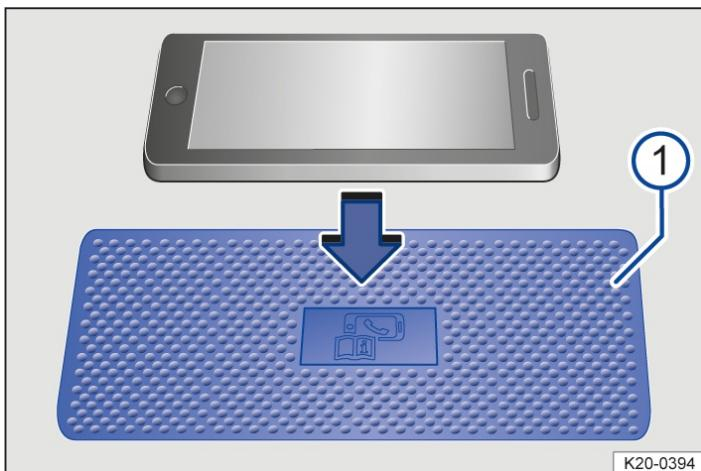

Fig. 1 Illustration: stowage area with mat for wireless charging function. The symbol on the lining mat may look different in some vehicles.
The stowage area with lining mat → *Fig. 1* (1) for the wireless charging function is located either in the centre console or in a stowage compartment in the area between the front seats depending on the vehicle.
In some vehicles, the lining mat has a telephone symbol that marks the centre position of the wireless charging function → *Fig. 1* (1).